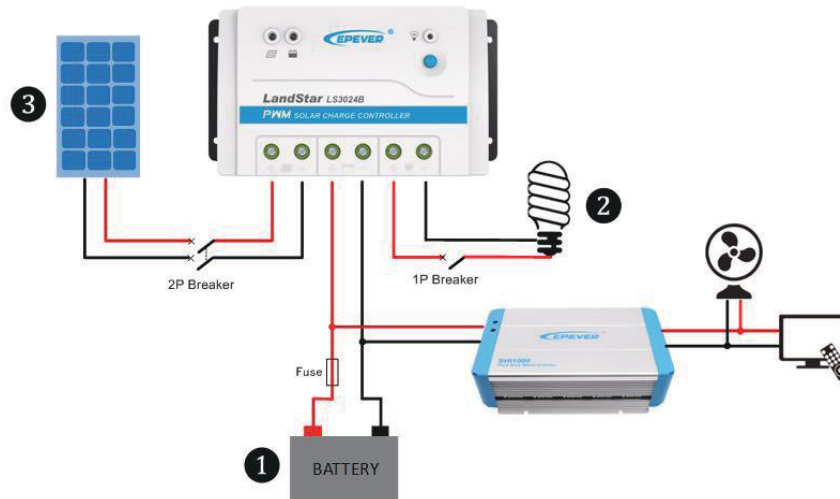

Figure 2 Connection diagram
Connect the system in the order of ① battery  → ② load  → ③ PV array  in accordance with Figure 2" Connection diagram" and disconnect the system in the reverse order ③ ② ① .